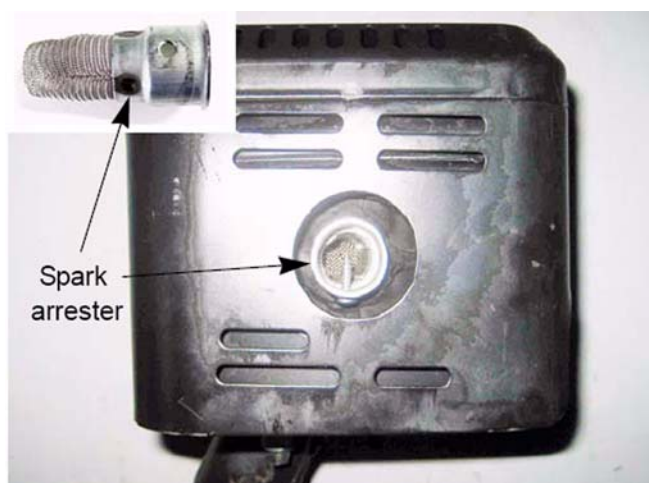

Figure 8.1
NOTE: Spark arrestors are an option that are required on all engines used in California and U.S. national parks. See Figure 8.1. Inset.
The spark arrester should be checked and/or cleaned every month. The spark arrester can be inspected by shining a flash light into the muffler. See Figure 8.1.
2. Remove the spark arrester retaining screw using a #2 phillips screwdriver. See Figure 8.1.